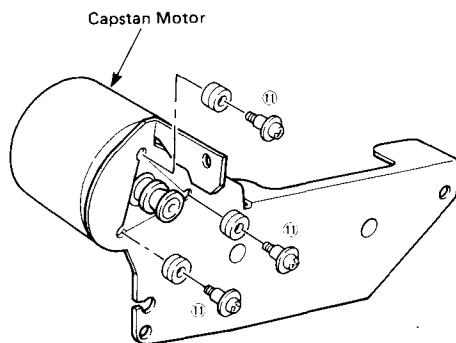

Fig. 7
- c. Remove 3 screws ⑪ in Fig. 7 and replace the capstan motor.